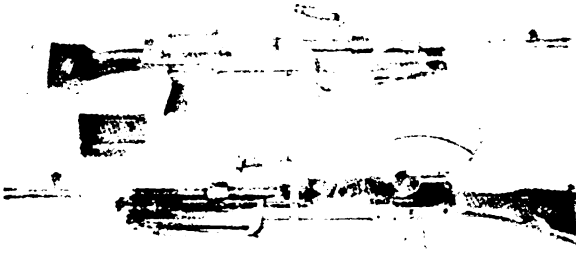

Figure 12
12. Identify the BREN L4A2. (See fig. 12.)